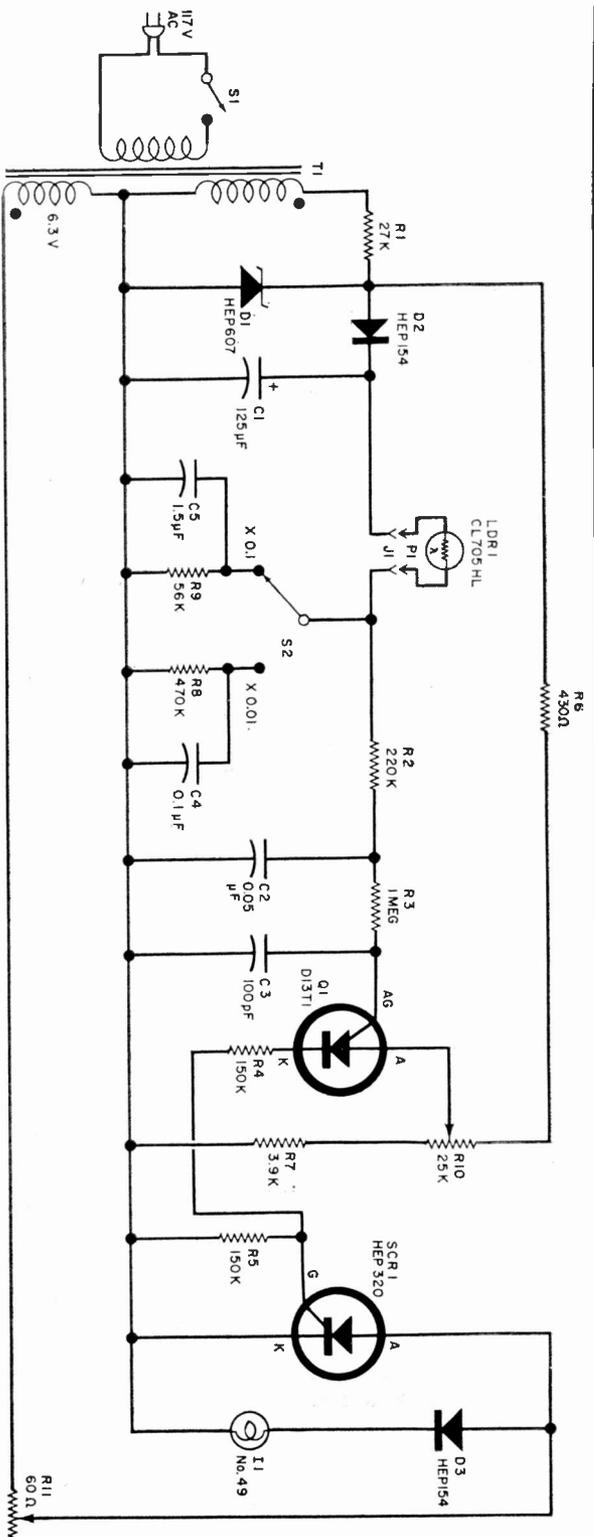

Fig. 1. The setting of R10 and resistance value of LDR1 (under various lighting levels) determine triggering time of Q1.
Mounted on the top panel are the calibration potentiometer *R10*, power switch *S1*, range switch *S2*, indicator lamp *I1*, and input jack *J1*. The latter should be insulated from the metal case. When all of these components have been assembled, mount the power transformer *T1* on one wall of the case; and after soldering the required leads to the PC board, mount the board on four spacers. Connect the circuit as shown in Fig. 1.
**Construction.** The schematic of the enlarged lightmeter is shown in Fig. 1. The photoresistor (light dependent resistor) *LDRI*, is mounted in a thin plate-like package which is connected to the rest of the circuit by a long two-conductor cable as shown in the photos. Most of the electronic circuit is built on a printed circuit board, the foil pattern for which is shown in Fig. 2.
**Calibration.** With the circuit wired as shown in Fig. 1, turn on the power. Remove *Q1* from its socket and note that indicator lamp *I1* comes on. If *I1* remains off, progressively decrease the value of *R5* to keep *SCR1*